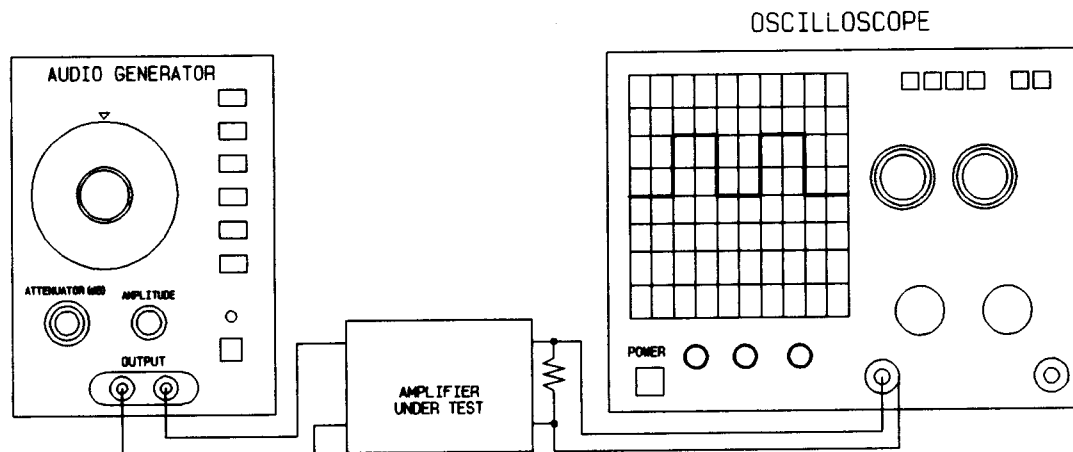

Fig. 7
4.1 Connect the instrument, an amplifier to be tested and an oscilloscope as shown in Fig.7.